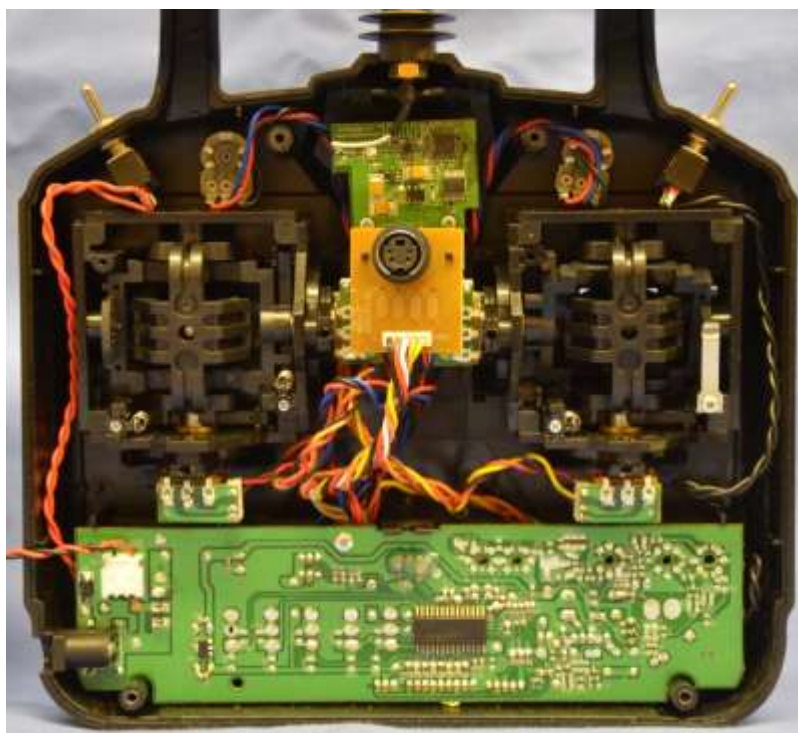

Fig 46 Inside a Typical 2.4GHz Transmitter
2.4GHz radios (Figs 46 and 47) operate using the same pulse modulation system, but use a different RF operating system known as **Spread Spectrum**, of which there are a number of system types in use. The two types described below are that of **Futaba** and **Spektrum**